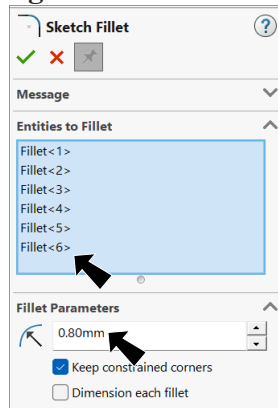

Fig. 60
Step 11. In the Sketch Fillet Property Manager set: under Fillet Parameters, **Fig. 60**